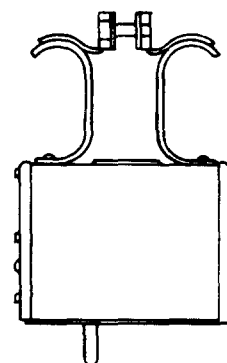

Fig. 5—KS-14555, L2 Connector
- (b) **KS-14555, L2:** The KS-14555, L2, connector (Fig. 5) is provided with a cover which has a combination handle and cable clamp at the top. The cable clamp is suitable for clamping a 1/2-inch diameter cable. The L2 is used with networks in the amplifiers of the A2 video equipment and the T3 and T4 television terminals to provide connections for the J44104R vacuum tube test set when testing vacuum tubes.